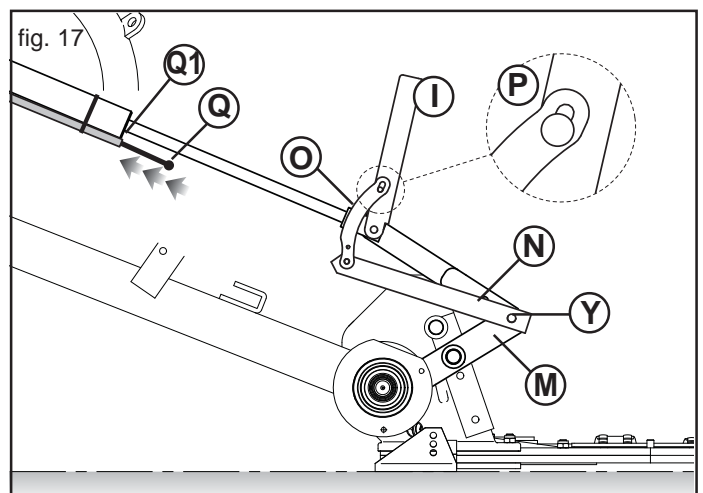

fig. 17
- 1) Move the lever mechanisms (M and N, Fig. 17) to position (Y).
- 2) Lift the bracket (I) as shown in Figure 17 and lock it with the rod (O) in the lower position of the slot (ref. P, Fig. 17).
- 3) To avoid unpleasant problems during movement of the cutter bar, detach the steel cable (Q) from the rod (O) and retrieve it up to position (Q1).